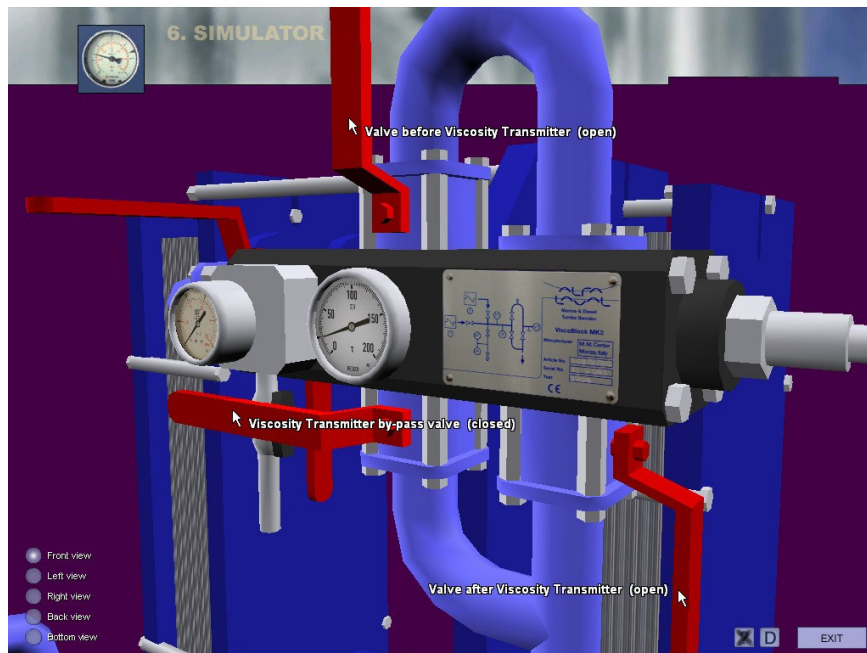

Fig. 21. Front view - Sensors block with valves
8. Open valves before and after the Viscosity sensor, check that the by-pass line is closed (fig. 21).